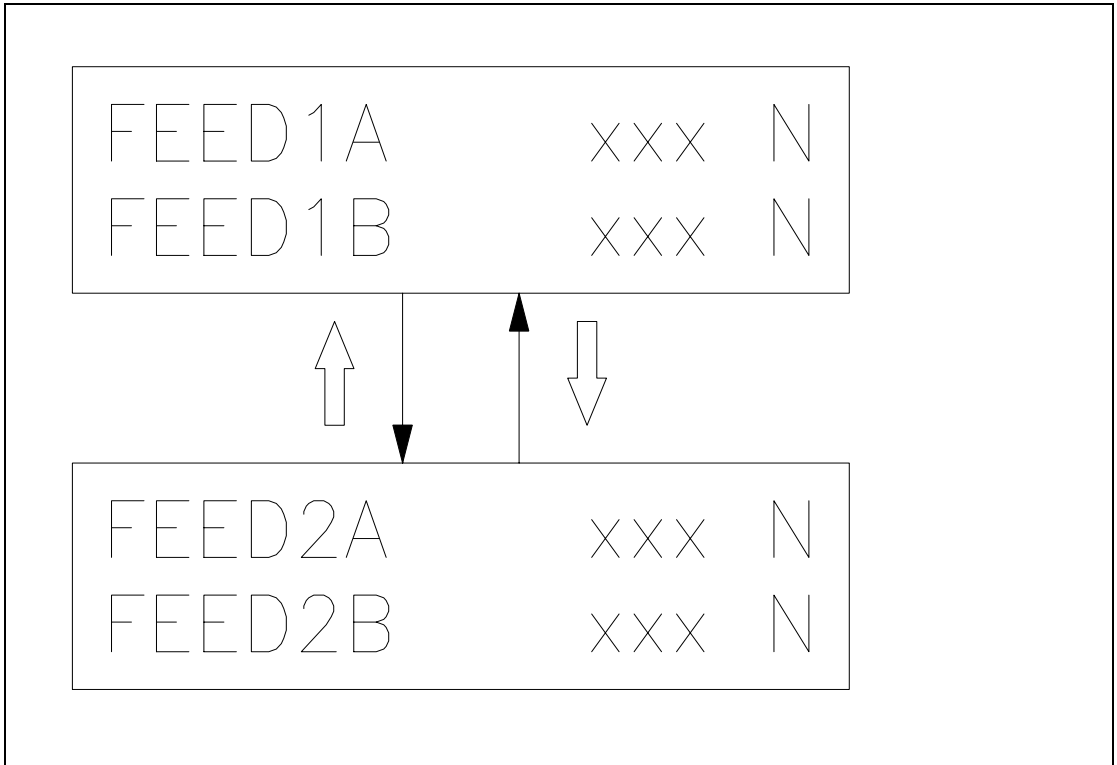

fig. 9: Switching between the tension feedback values
The following instructions are referring to a setup and calibration on-site. The material tension will be simulated by a weight (fig. 9).
- Press MODE key. Search and select the module *Spec.F EMGZ642 1/2* and the special function *Find offset* with the $\uparrow \downarrow \hookleftarrow$ keys (fig. 9).
- Find offset by pressing the \hookleftarrow key for 3 seconds (fig. 9). The electronic unit calculates automatically the new offset value. The display will return to the main operating menu. (The offset may also be determined alternatively with the digital input *Find Offset*; refer to wiring diagram.)
- Press MODE key. Search and select the module *Spec.F EMGZ642 1/2* and the special function *Calibration* with the $\uparrow \downarrow \hookleftarrow$ keys (fig. 9).
- Set the force referring to the applied weight into the display with the $\uparrow \downarrow$ keys and confirm with \hookleftarrow key (fig. 9). The electronic unit calculates automatically the new gain value. The display will return to the main operating menu.